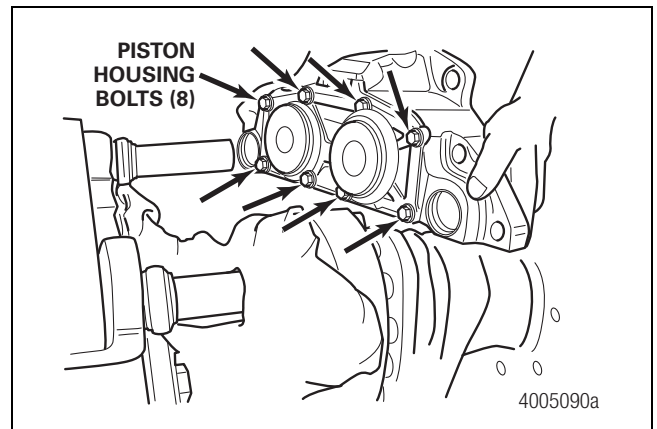

Figure 6.25
3. Carefully remove the housing assembly from the slide pins. The assembly is not serviceable. Do not attempt to tighten or loosen the eight piston housing bolts. Figure 6.25.